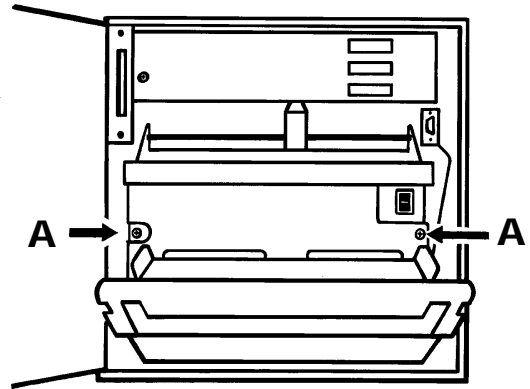

Figure 2.2.2a
3. With the cassette open, Release the writing system by undoing the captive screws ('A' in figure 2.2.2a)